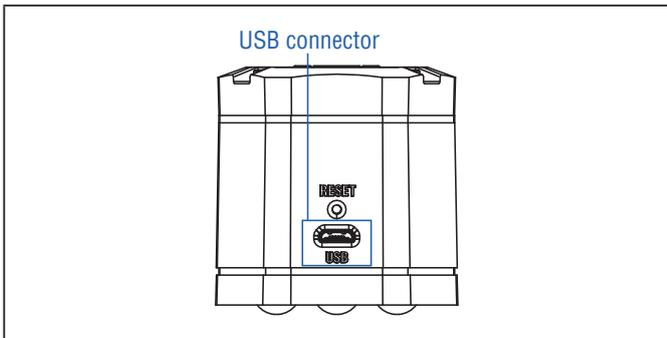

Fig. 39: USB port on the TempoLink® smart assistant
1. Connect the USB cable with the micro USB connector to the port labeled “USB” on the TempoLink® smart assistant (Fig. 39).